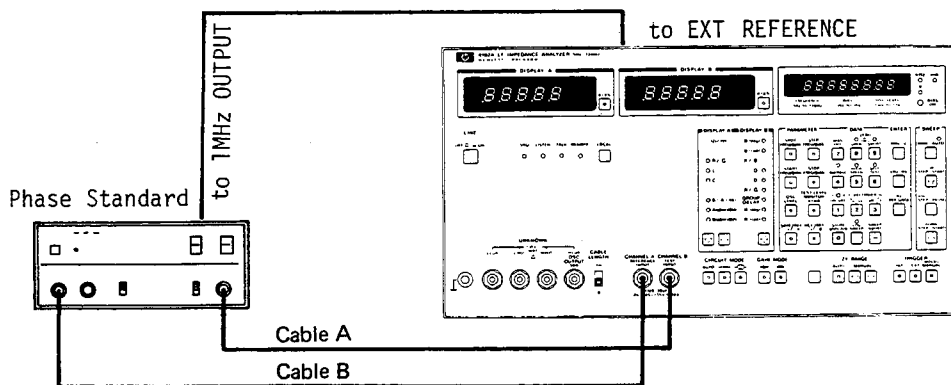

Figure 4-9. Phase Accuracy Test Setup.
Note: Cables A and B in Figure 4-9 should be the same length.
- a. Connect the 16344A Phase Standard to the 4192A as shown in Figure 4-9.